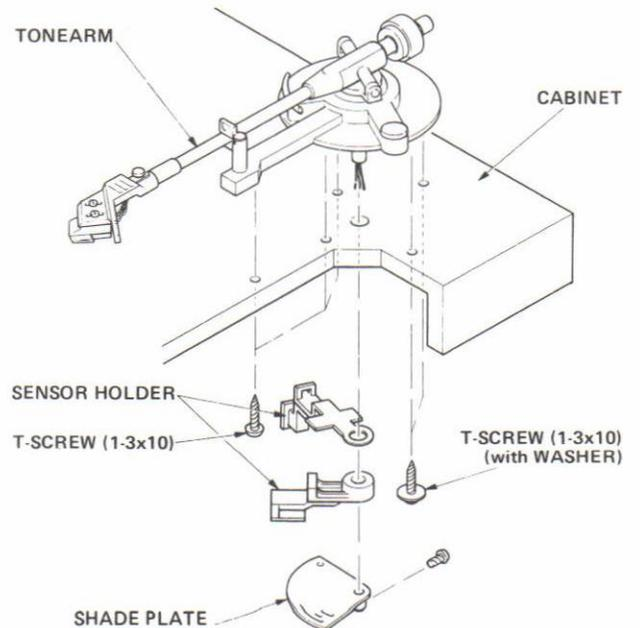

Fig. 9
4. Remove the 5 screws securing the tonearm (3 1-3 x 10 tapping screws and 2 washer-equipped 1-3 x 10 tapping screws). [See Fig. 9].